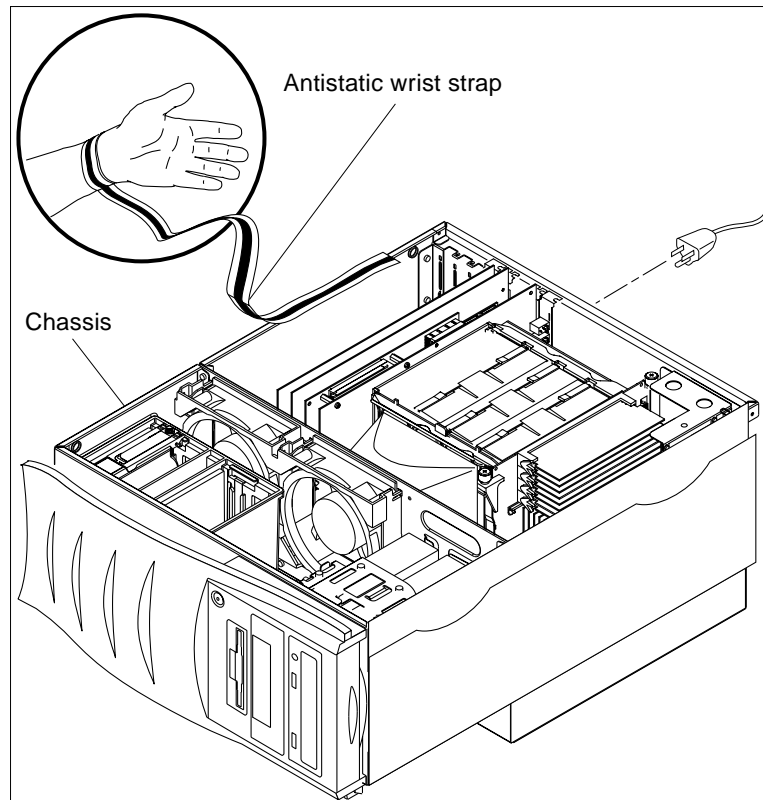

FIGURE 6-4 Attaching the Antistatic Wrist Strap to the Chassis
- c. **Attach the copper end of the antistatic wrist strap to the chassis (FIGURE 6-4).**